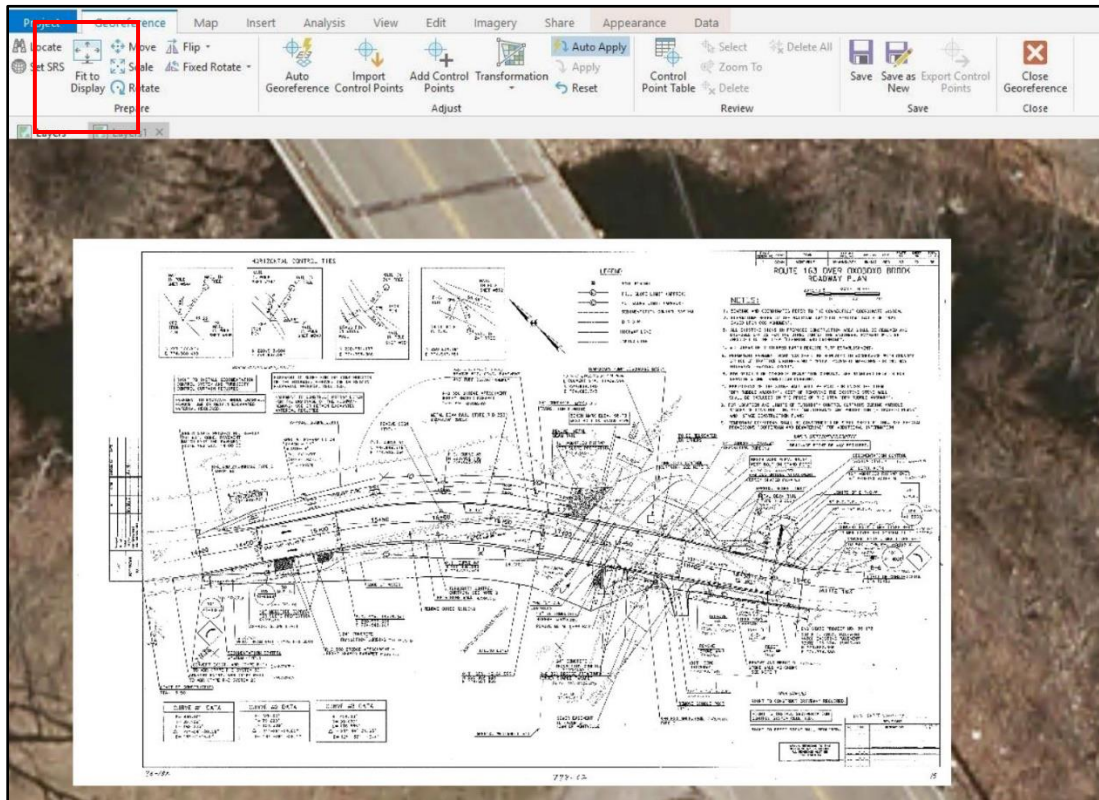
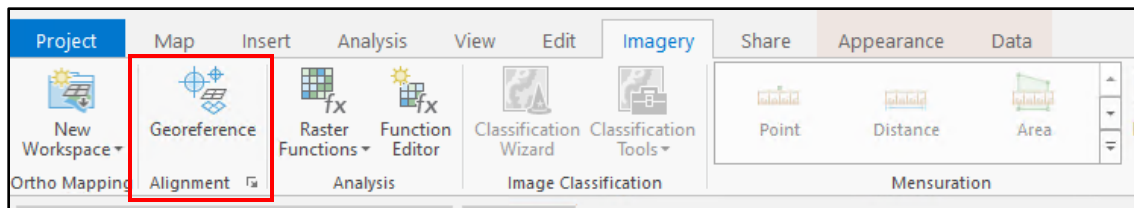

Figure 29. Fit to Display in ArcGIS Pro.
Figure 30. Georeferencing toolbar in ArcGIS Pro.
- Zoom to the area the plan is and click in the Georeferencing toolbar "Fit to Display" (Figure 29, below). The Georeferencing toolbar can be found in the Imagery Tab (Figure 30, below). Once the plan is in the right general area, use other tools to rotate or move the image.